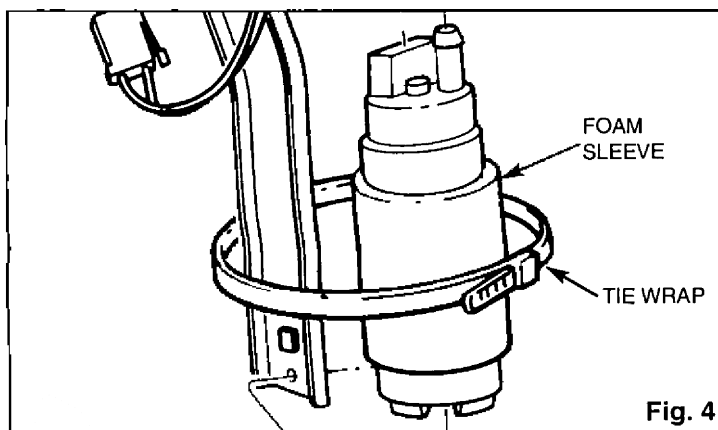

Fig. 4
A). Using the new pump and new or existing isolator, test fit the pump and isolator assembly in the fuel pump bracket so that there is a minimum 1/8" gap between the outlet tube of the pump and the bracket tube. If needed cut the hose to the proper length. Place the hose on the pump outlet tube. Place both clamps over the hose. Slide the hose onto the bracket tube. Attach the L-shaped bracket to the main bracket. Adjust the pump in the bracket so that the tab of the isolator matches the hole in the L-shaped bracket. Tighten one clamp over the pump outlet tube and one over the bracket tube. If required tighten the tie wrap around the pump as it sits in the bracket. It is preferred to place the tie wrap close to the bottom of the pump in order to best keep the pump secure in the bracket. (See Fig. 4)